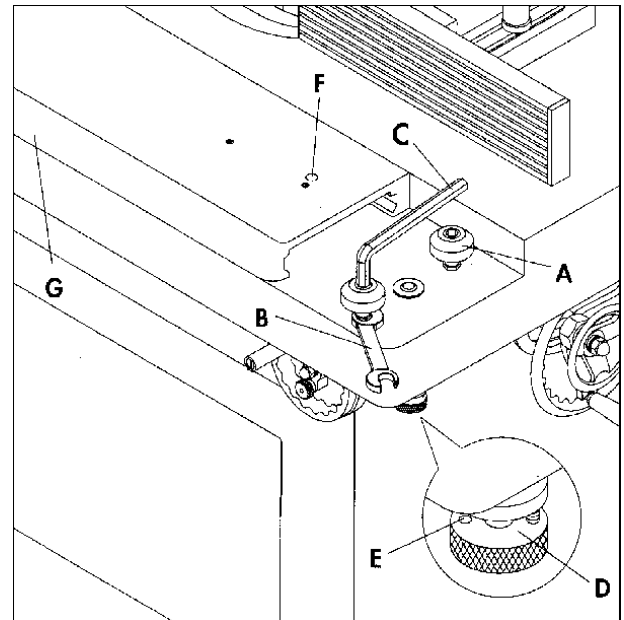

FIGURE 31
There are six adjustable eccentric rollers (A) on the sliding table, shown in Figure 31. Whenever the table is unstable or not traveling in line, adjust the sliding table as follows:
1. Use open end wrench (B) to adjust the rollers.
2. Lock the rollers by using the hex wrench (C).